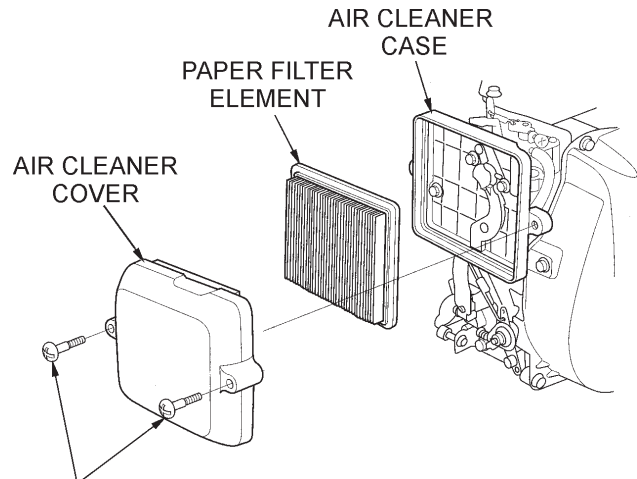

Figure 12. Engine Air Cleaner
- Tap the paper filter element (Figure 12) several times on a hard surface to remove dirt, or blow compressed air [not exceeding 30 psi (207 kPa, 2.1 kgf/cm²)] through the filter element from the air cleaner case side. **NEVER** brush off dirt. Brushing will force dirt into the fibers. Replace the paper filter element if it is excessively dirty.